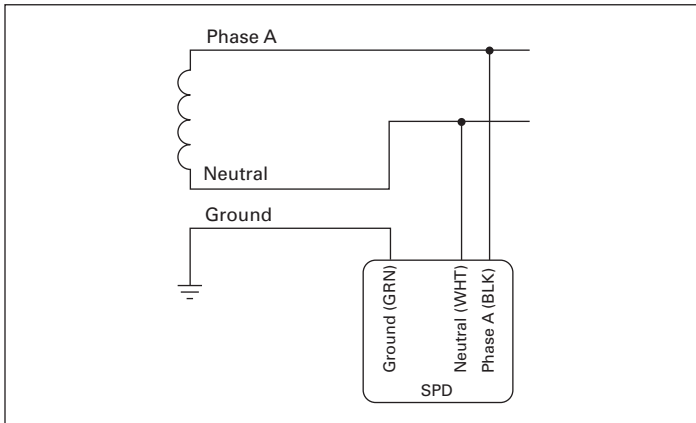
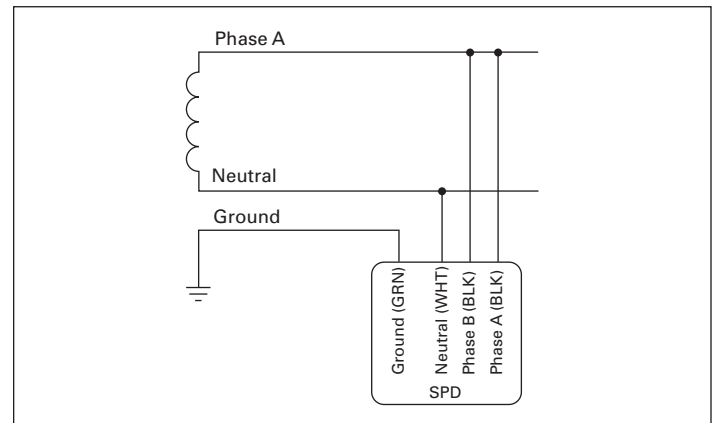

Figure 6. Single-phase (1P201, 1P400)
Figure 11. Single-phase 120 V (1S101)
1. Locate the electrical system's applicable wiring diagram in **Figure 6** through **Figure 11**. Reference this wiring diagram as necessary in Steps 2, 3, and 4.